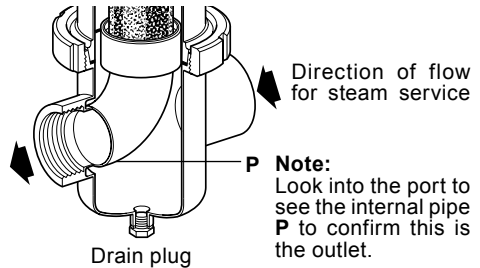
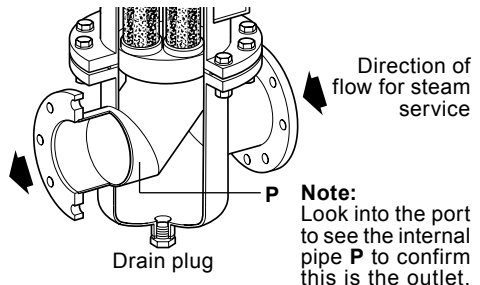

Fig. 3 Steam filter - DN8 to DN80
Fig. 4 Steam filter - DN100 to DN200
4. While at the same time the direction of flow for compressed air and liquids can be in any direction through the filter, **for steam the flow must be from outside to inside**. This can be checked by looking into the filter head before installation in the pipeline, see Figure 3 and Figure 4.